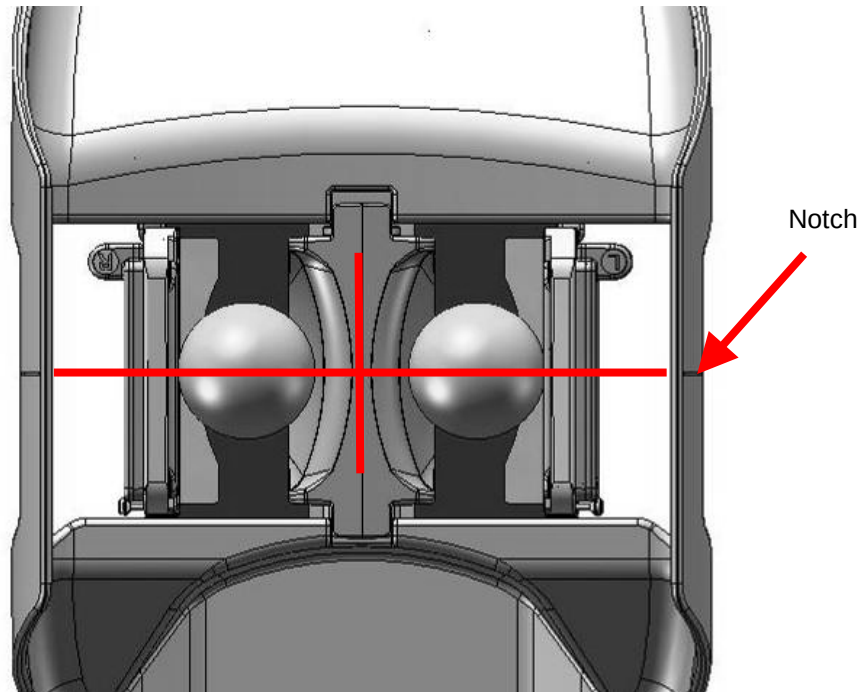

Figure 66: 4 Channel - Landmark Phantoms
5. Landmark using the notch on the edge of the patient support as shown in Figure 66.